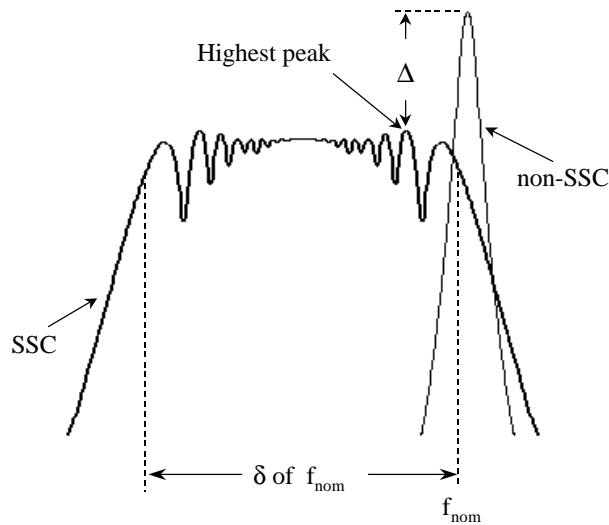

Figure 13 Spectral Fundamental Frequency Comparison
6. For triangular modulation, the clock frequency deviation (δ) is required to be no more than 0.6% “down-spread” from the corresponding nominal frequency, i.e., +0%/-0.6%. The absolute spread amount at the fundamental frequency is shown in Figure 13, as the width of its spectral distribution (between the -3dB roll-off). The ratio of this width to the fundamental frequency cannot exceed 0.6%. This parameter can be measured in the frequency domain using a spectrum analyzer. The amount of allowed spreading for any non-triangular modulation is determined by the induced downstream PLL tracking skew (see explanation in 8), which cannot exceed that of a 0.6% triangular modulation. Typically, it is about 0.5%.
7. To achieved sufficient system-level EMI reduction, it is desired that SSC reduce the spectral peaks in the non-SSC mode by the amount specified in Table 17. The peak reduction Δ is defined, as shown in Figure 13, as the difference between the spectral peaks in SSC and non-SSC modes at the specified measurement frequency